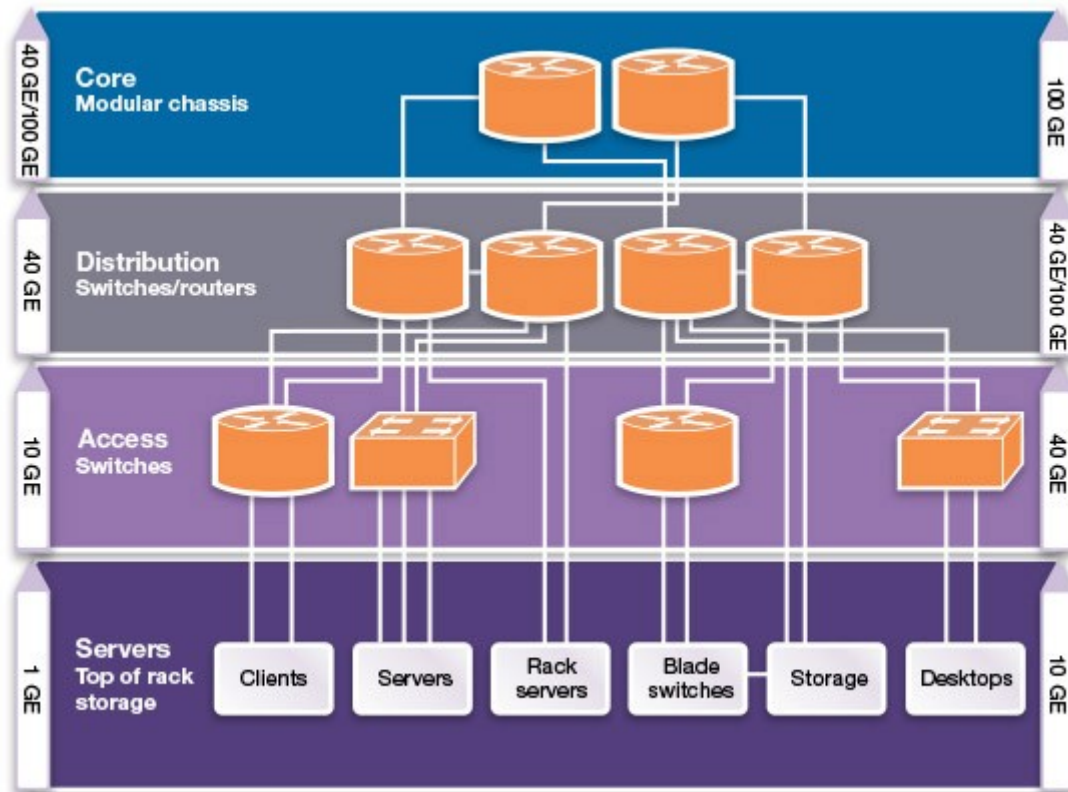

Figure 2: Increased bandwidth across the entire network infrastructure
Higher data rate standards are being adopted across the entire network infrastructure, from the client level (at the bottom of Figure 2) to the core backbone layers of the network infrastructure. Higher data rates are not just for interconnecting high-end systems to systems, or boxes to boxes, but all the way down to line cards and interconnects that are across the access layers, effectively touching the consumer application space.
The clients, servers, and switches on the bottom of the figure 2, running at 1 Gigabit Ethernet (GE) today, feed the 10 GE, 40 GE, and 100 GE systems that connect to the core. Right now, the growth for 1 GE port adoption rate has started on its downward ramp as 10 GE is growing quickly. Dell'Oro Group forecasted the 10GE port shipments to grow at a rate of almost 50% CAGR in the next five years. As clients, servers, and switches migrate from 1 GE to 10 GE, their respective higher level network infrastructures will also migrate to higher data rates to meet the increased bandwidth demand.
PCI Express is used for almost everything that connects to the access layer, as shown in Figure 2. In storage, servers or switches, almost every application has a PCIe interface, either through the host bus adapter card, LAN on Motherboard (LOM) or a network interface card (NIC).